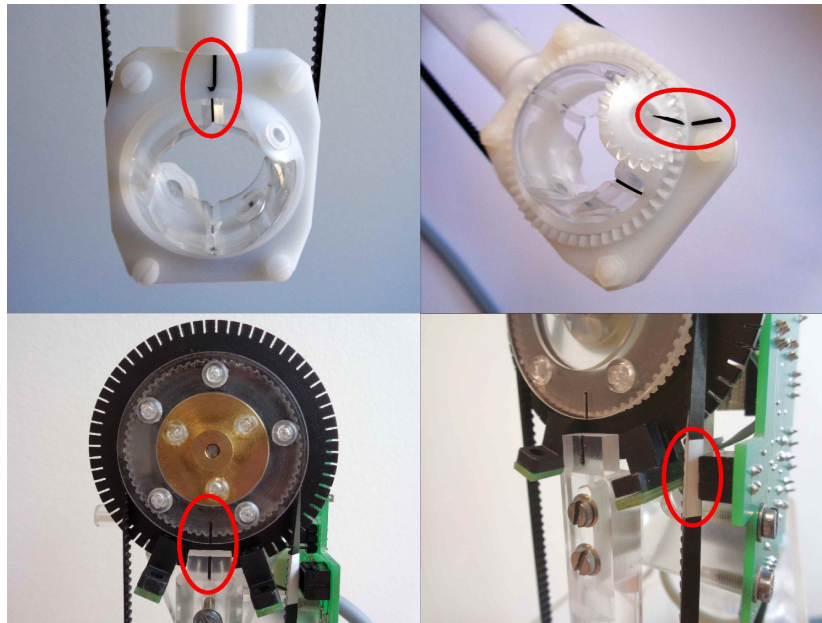

Figure 14: Position marks on the 3D-Rotator
1. Insert the shell into its holder. Position marks on the shell and on the plastic wheel must be simultaneously aligned, as shown in Fig. 14
3. Turn the black driving wheel so that two marks are aligned, as shown in Fig. 14. Then mount the driving belt on the wheel so that the white belt mark is approximately in the center of the top photosensor.